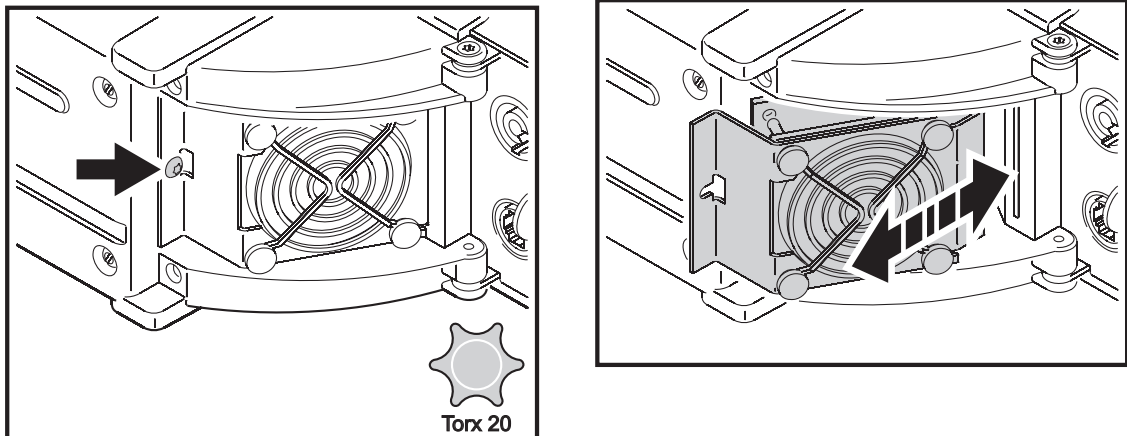

Figure 4: Cooling fan removal
- See Figure 4. If a cooling fan or grille requires more thorough cleaning, loosen the fan assembly retaining screw (arrowed) slightly and slide the assembly out of the end cap for access. Do not strain the wires to the fan. Brush dirt from the fan blades with a soft brush, preferably in conjunction with a vacuum cleaner.